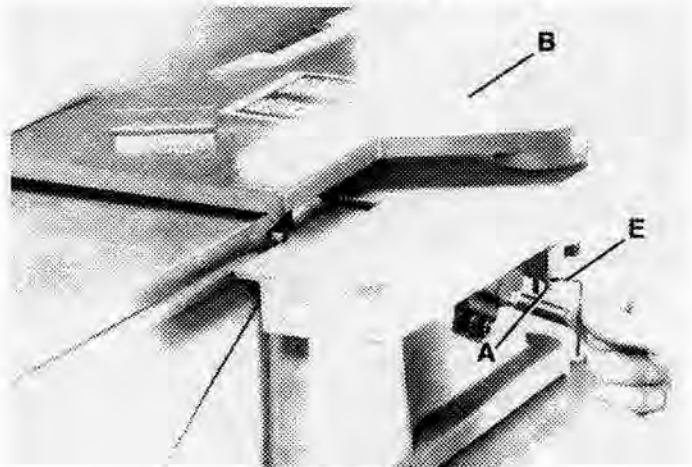

FIGURE 15
3. Thread set screw (E) Fig. 15, which was removed in **STEP 1**, back into post (A) to keep cutterhead guard (B) in position during operation.